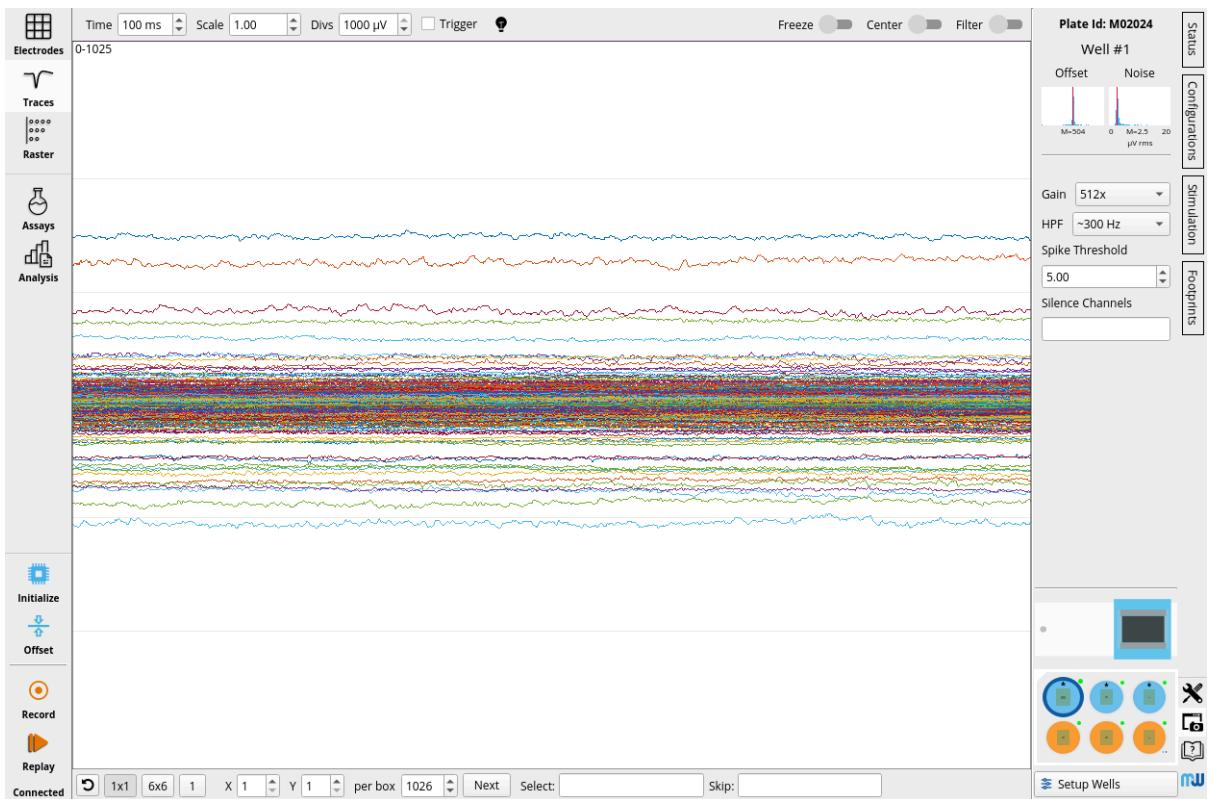

Figure 1.7. Signal Inspection after Offset Compensation
8. After a few seconds, the signal traces should become vertically arranged around the center of the traces window (Figure 1.7). Accordingly, the left histogram in the Status Tab should now show a sharp peak instead of a broad distribution.